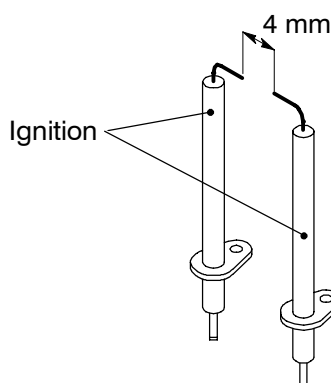

Fig. 82
- 2 Check for the correct distance between the metallic edges of the ignition electrodes (see Fig. 82).